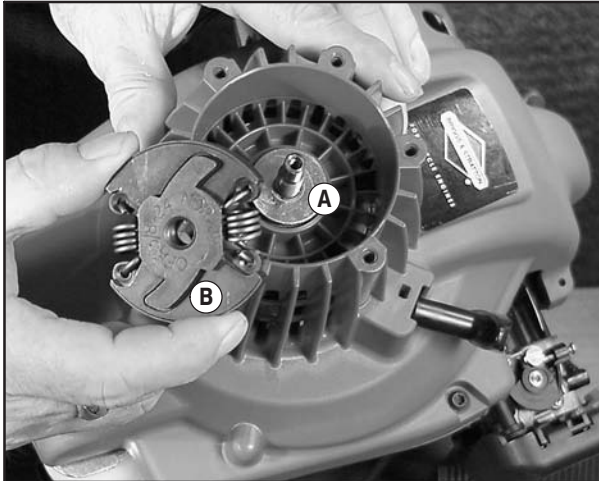

Fig. 12
- Install thrust washer (A), Fig. 12.
- Assemble clutch to shaft with writing up (B). Hand tighten clutch.